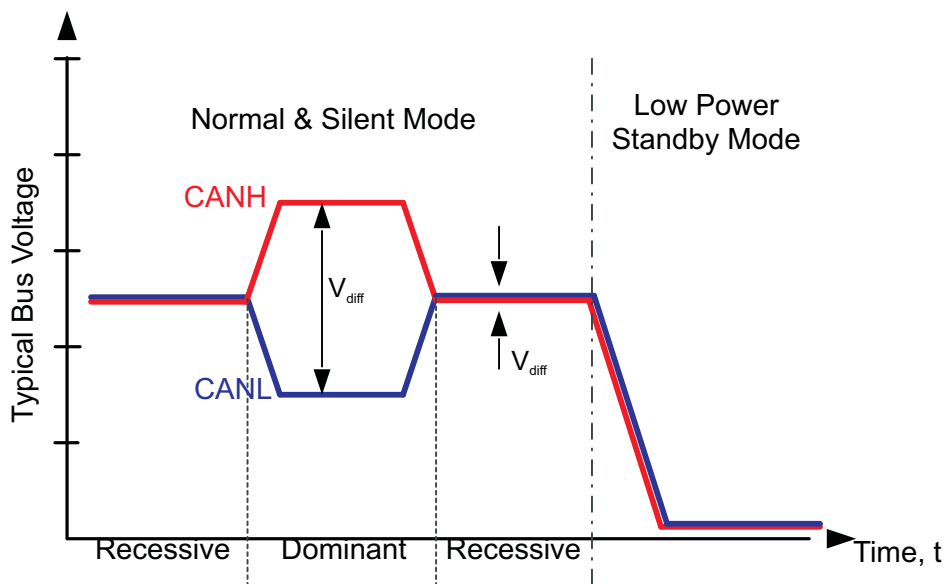
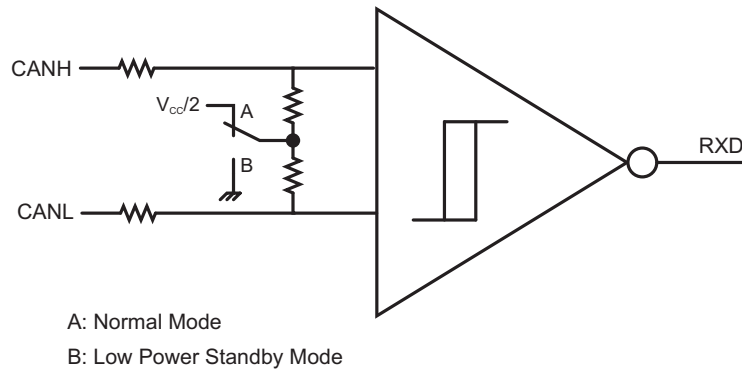

Figure 16. Bus States (Physical Bit Representation)
Figure 17. Simplified Common-Mode Bias and Receiver Implementation
Both of the supply pins have undervoltage detection, which places the device in forced standby mode to protect the bus during an undervoltage event on either the V_{CC} or V_{IO} supply pins. If V_{IO} is undervoltage, the RXD pin is forced to the high-impedance state and the device does not pass any wake-up signals from the bus to the RXD pin. Because the device is placed into forced standby mode, the CAN bus pins have a common-mode bias to ground, protecting the CAN network; see Figure 16 and Figure 17.
(1) See Figure 16 and Figure 17 for common-mode bias information.
This is the low-power mode of the device. Standby mode is selected by setting STB high. The CAN driver and main receiver are turned off and bidirectional CAN communication is not possible. The low-power receiver and bus monitor, both supplied through the V_{IO} supply, are enabled to allow for RXD wake-up requests through the CAN bus. The V_{CC} (5-V) supply may be turned off for additional power savings at the system level. A wake-up request is output to RXD (driven low) for any dominant bus transmissions longer than the filter time t_{BUS} . The local protocol controller (MCU) must monitor RXD for transitions and then reactivate the device to normal mode based on the wake-up request. The 5-V (V_{CC}) supply must be reactivated by the local protocol controller to resume normal mode if it has been turned off for low-power standby operation. The CAN bus pins are weakly pulled to GND, see Figure 16 and Figure 17.
- (1) H = high level, L = low level, X = irrelevant, Y = common-mode bias to GND, Z = common-mode bias to V_{CC} / 2. See Figure 16 and Figure 17 for common-mode bias information.
- (2) HVDA551 and HVDA553 have internal pullup to V_{IO} on the STB pin. If the STB pin is open, the pin is pulled high and the device is in standby mode.